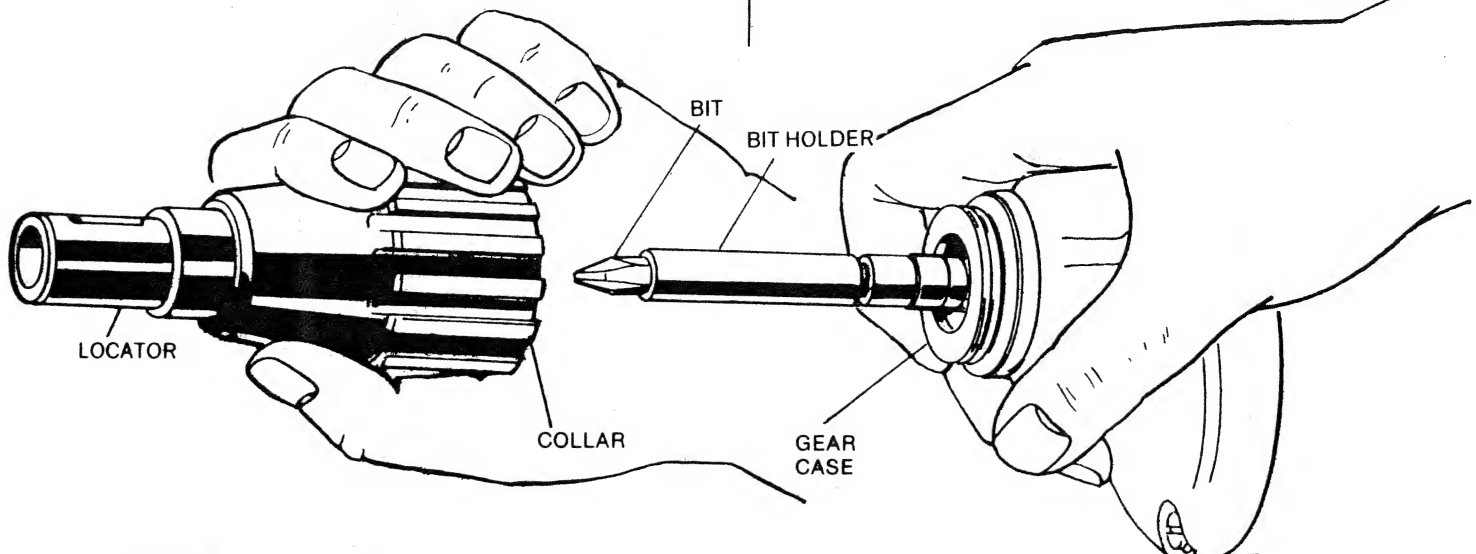

Figure 4
ACCESSORY ASSEMBLY & ADJUSTMENT FOR DRYWALL UNITS (Fig. 4)
2. Adjust clutch setting. See Fig. 4.